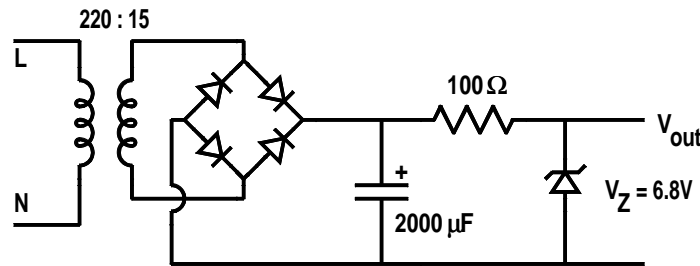

Figure 29.4: Example 29.2.
- 29.2 Calculate the maximum current which can be drawn from the power supply shown in Figure 29.4 without causing the output voltage to drop below 6.8 V. Calculate the minimum required power rating for the Zener diode.